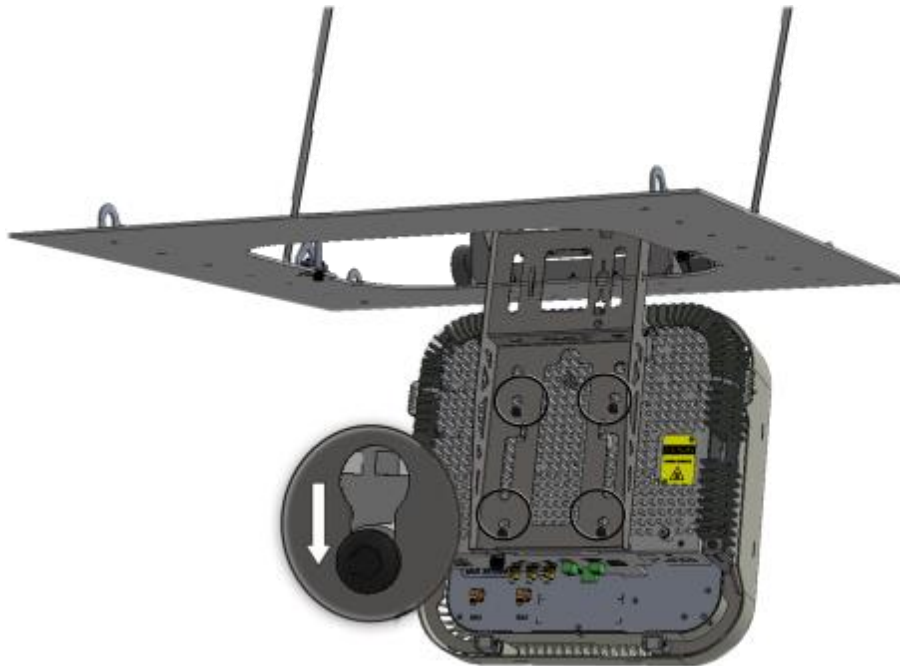

Figure 4-9. Mounting RAU5x onto Lift Bracket
3. Referring to Figure 4-9, fit the four pins on the RAU5x underside into the wide end of “Lift Bracket” keyholes and pull down into narrow ends to lock in. Make sure that the RAU5x is secure.